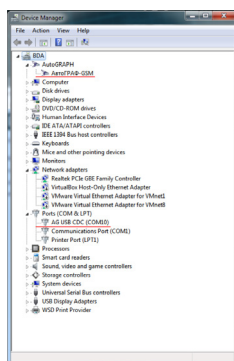

Fig.5.
6. Drivers for the AutoGRAPH tracker are successfully installed. The device is ready to operate with troubleshooting utilities, dispatch software and other applications (Fig.5).